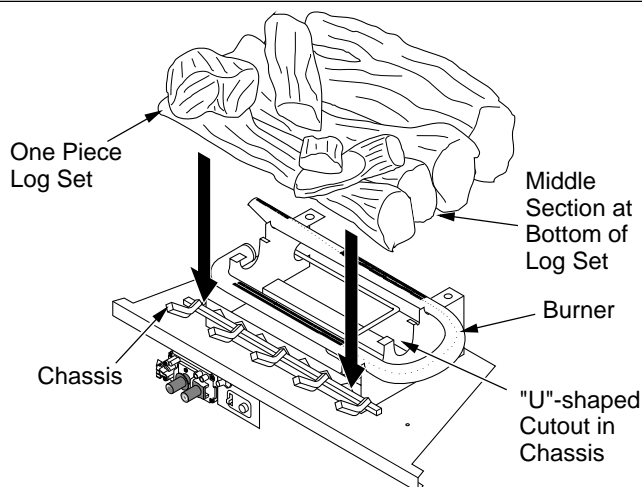
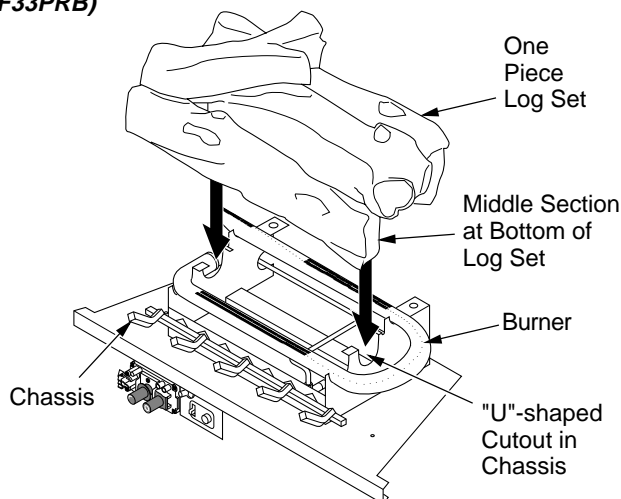
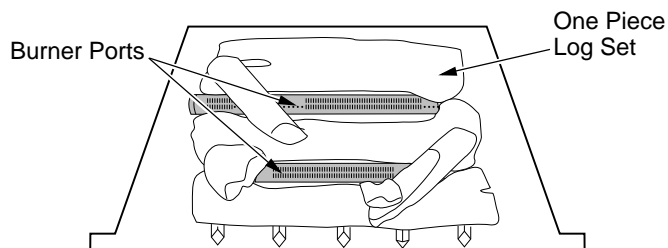

Figure 28 - Installing One Piece Log Set (Models VYGF33NRB & VYGF33PRB)
Figure 29 - Installing One Piece Log Set (Models FPVF33NRA & FPVF33PRA)
Figure 30 - Installing One Piece Log Set (Top View Models VYGF33NRB & VYGF33PRB)
1. For models VYGF33PRB and VYGF33NRB, place one-piece log set on grate to fit as illustrated in Figure 28. For models FPVF33PRA and FPVF33NRA, place one-piece log set on grate to fit as illustrated in Figure 29. Make sure middle section at bottom of log set is seated into "U"-shaped cutout in center of chassis (see Figure 29). **IMPORTANT:** Make sure log does not cover any burner ports (see Figures 30 and 31).